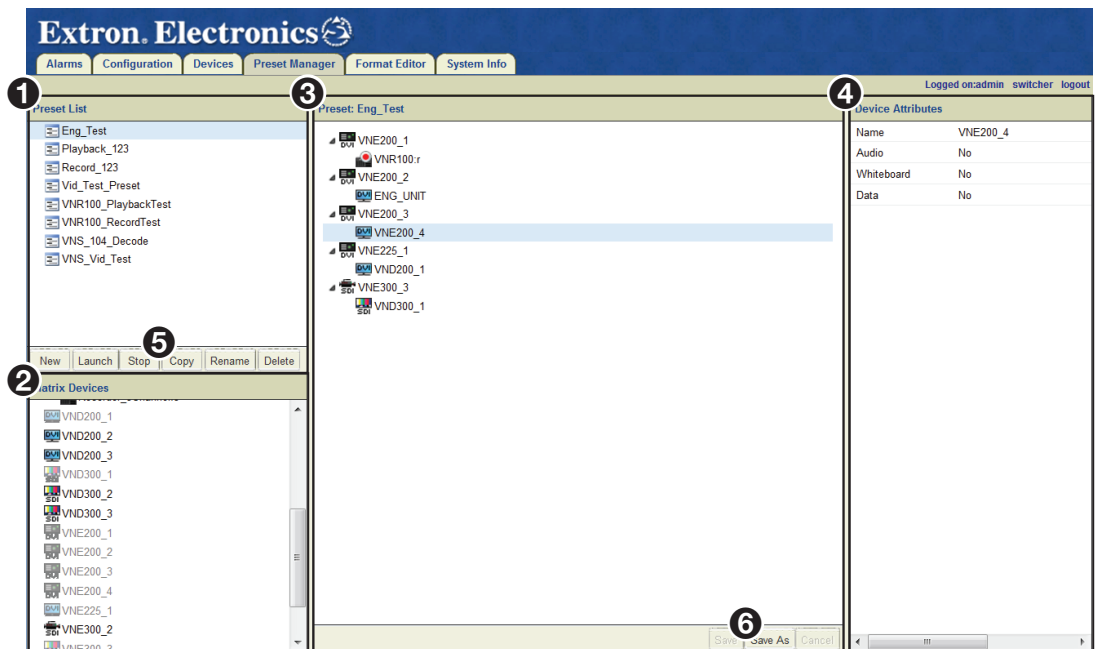

Figure 72. Preset Manager Page
The **Preset List** panel (see figure 72, ❶ on the previous page) provides management and control of the system presets from the preset list toolbar and provides a way to quickly reconfigure devices.